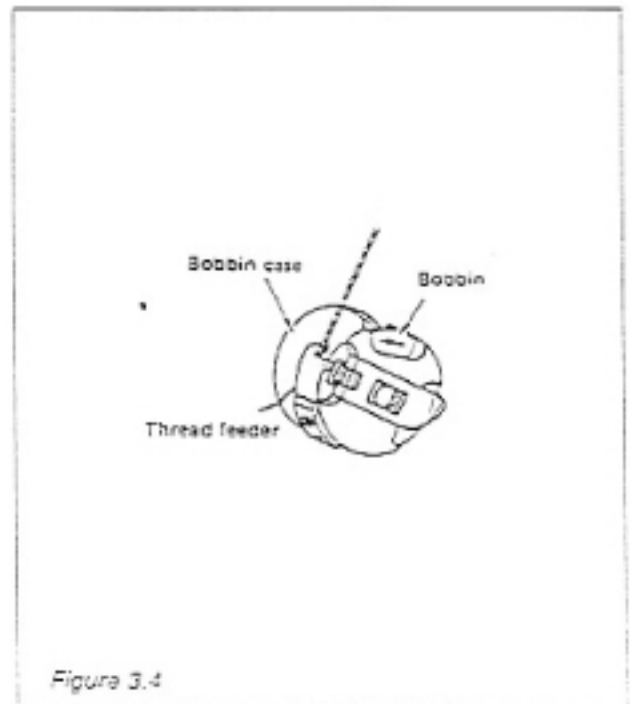

Figure 3.4
- a) Set the bobbin in the bobbin case in such a way that the bobbin will rotate in the direction as shown by arrow in Figure 3.4 when thread is pulled out.